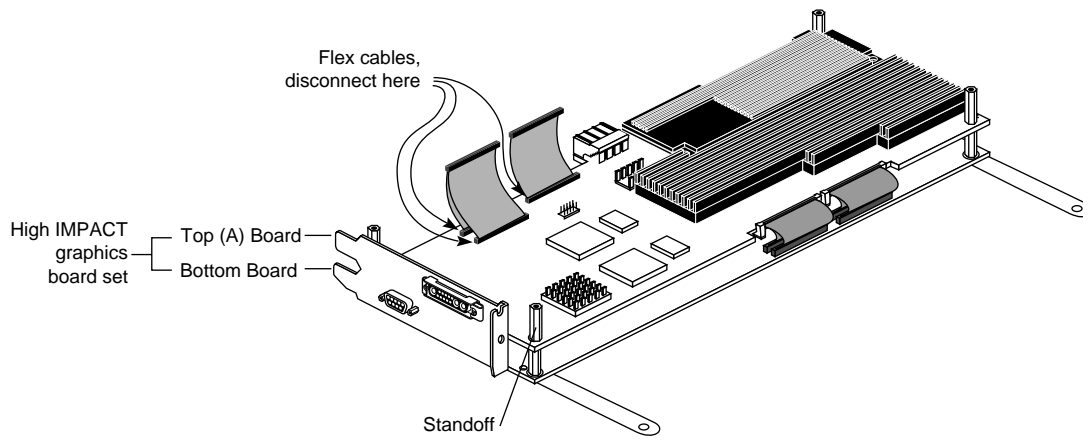

Figure 5-22 Removing Flex Cable From Connectors
- Grasp the sides of the connector and pull up. See Figure 5-22.